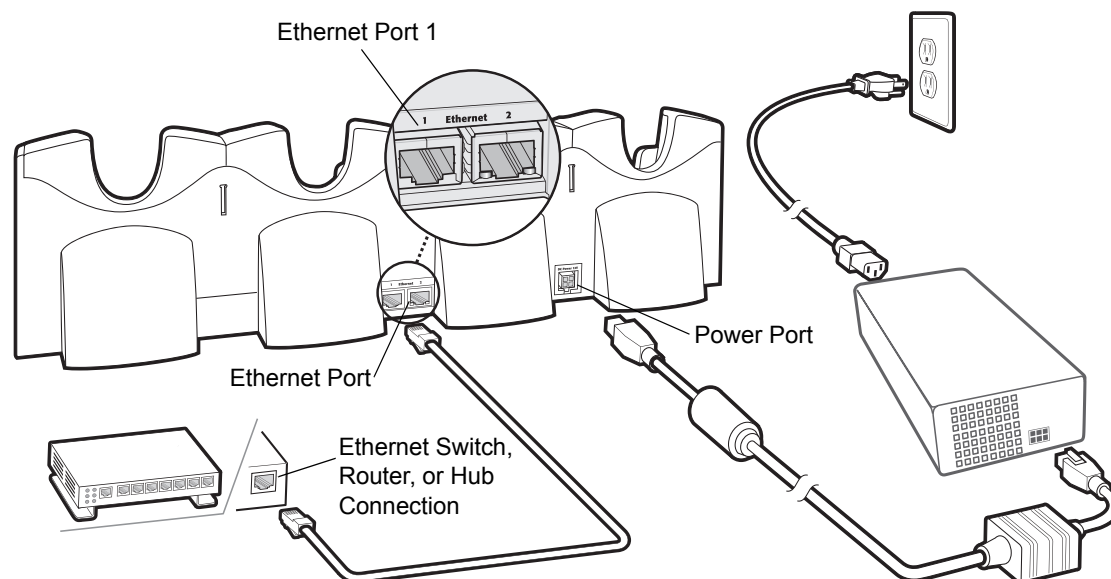

Figure 2-4 Four Slot Ethernet Cradle Connection
2. Connect an Ethernet cable to Port 1 of the first cradle as shown in Figure 2-4.
5. Connect power (see Figure 2-4 on page 2-5). The power supply should be located in the power supply well.